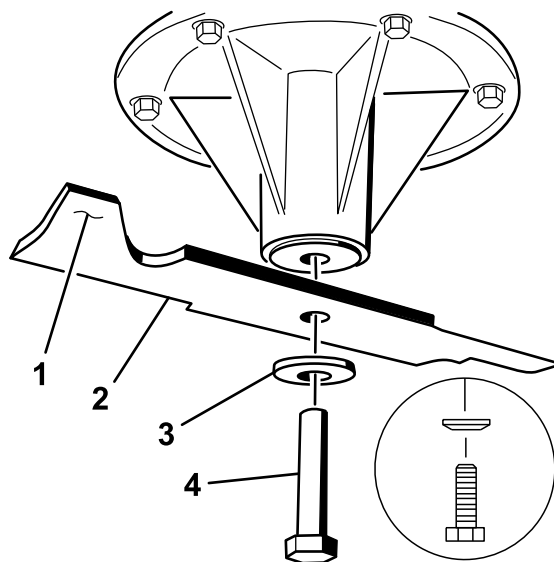

Figure 98
- Remove the blade bolt, curved washer, and blade from the spindle shaft (Figure 98).